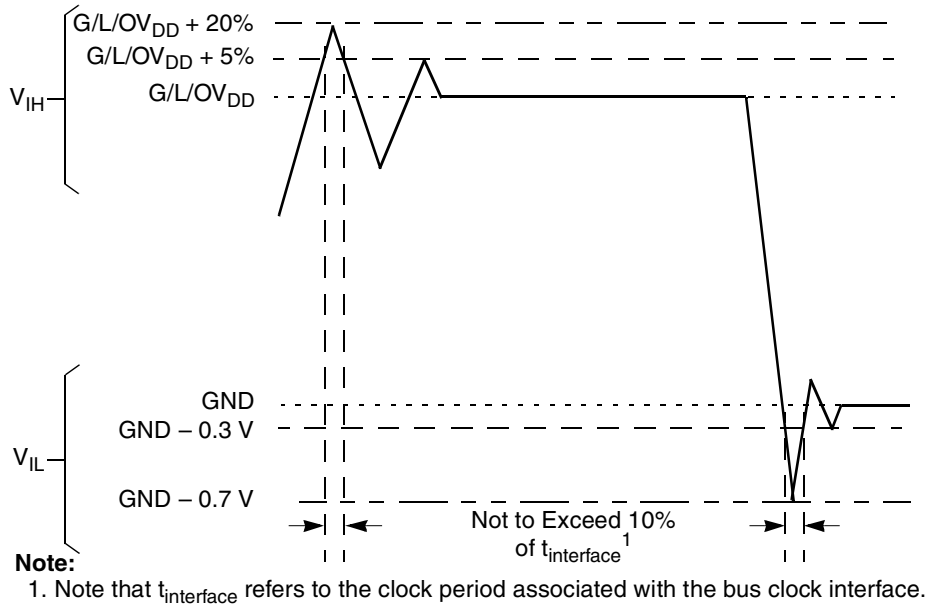

Figure 2. Overshoot/Undershoot Voltage for $GV_{DD}/OV_{DD}/LV_{DD}$
- (M,L,O) V_{IN} and MV_{REF} may overshoot/undershoot to a voltage and for a maximum duration as shown in Figure 2.
Figure 2 shows the overshoot and undershoot voltages at the interfaces of the device.